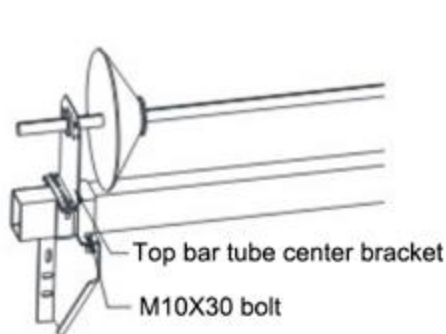

Figure 6-5
c. Use M10X30 bolts to fix the anti-torsion spring break support frame on the middle beam, and fix the anti-torsion spring break device to the anti-torsion spring break support frame with M10X30 (Figure 6-5).